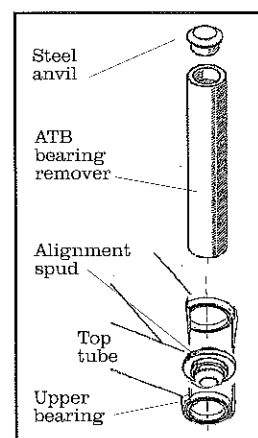

Fig. 29
2. Insert the large end of the **alignment spud** into the upper bearing (Fig. 29).